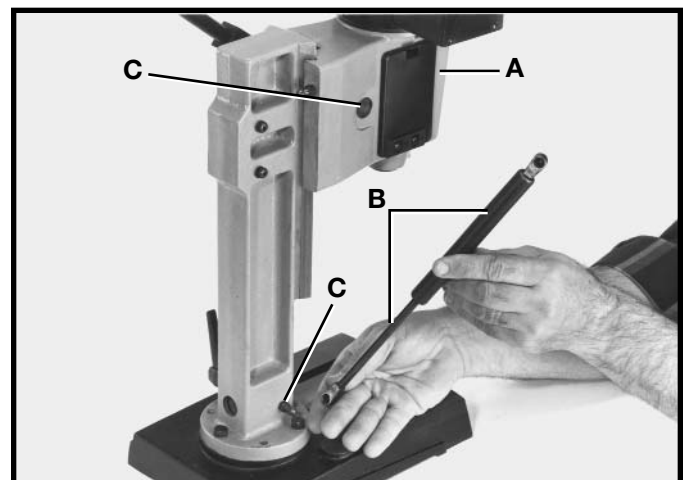

Fig. 5
1. Make sure head (A) Fig. 5, is held in the up position and assemble the hydraulic cylinder (B) to the two fittings (C), one located on the column and the other on the back of the head.